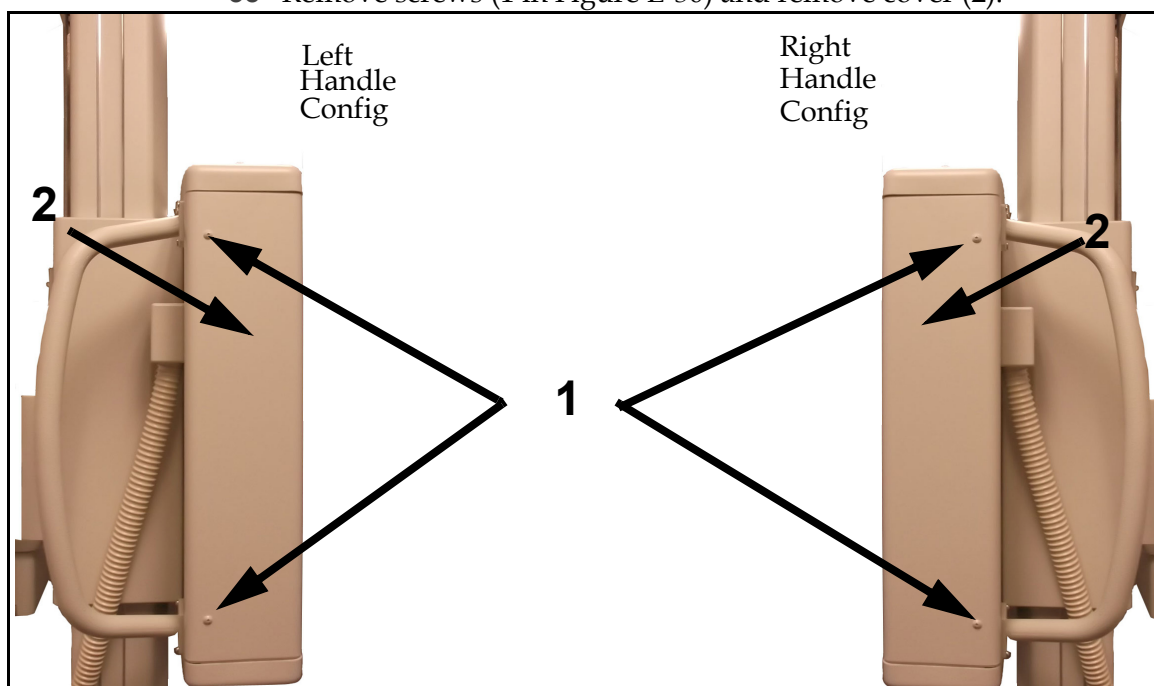

Figure E-30. Side Cover Removal
35 Remove screws (1 in Figure E-30) and remove cover (2).